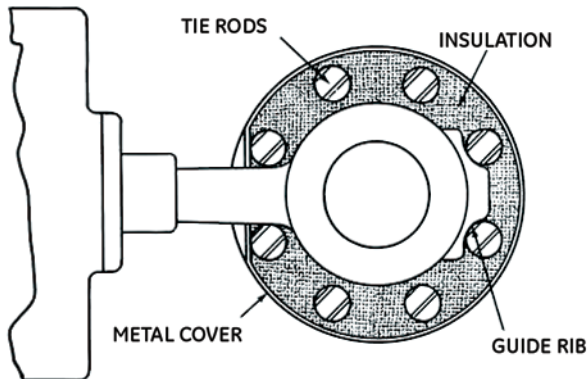

Figure 2
- Where insulation of the valve body is required, do not insulate the valve bonnet. Figure 2 shows a recommended method for insulation.